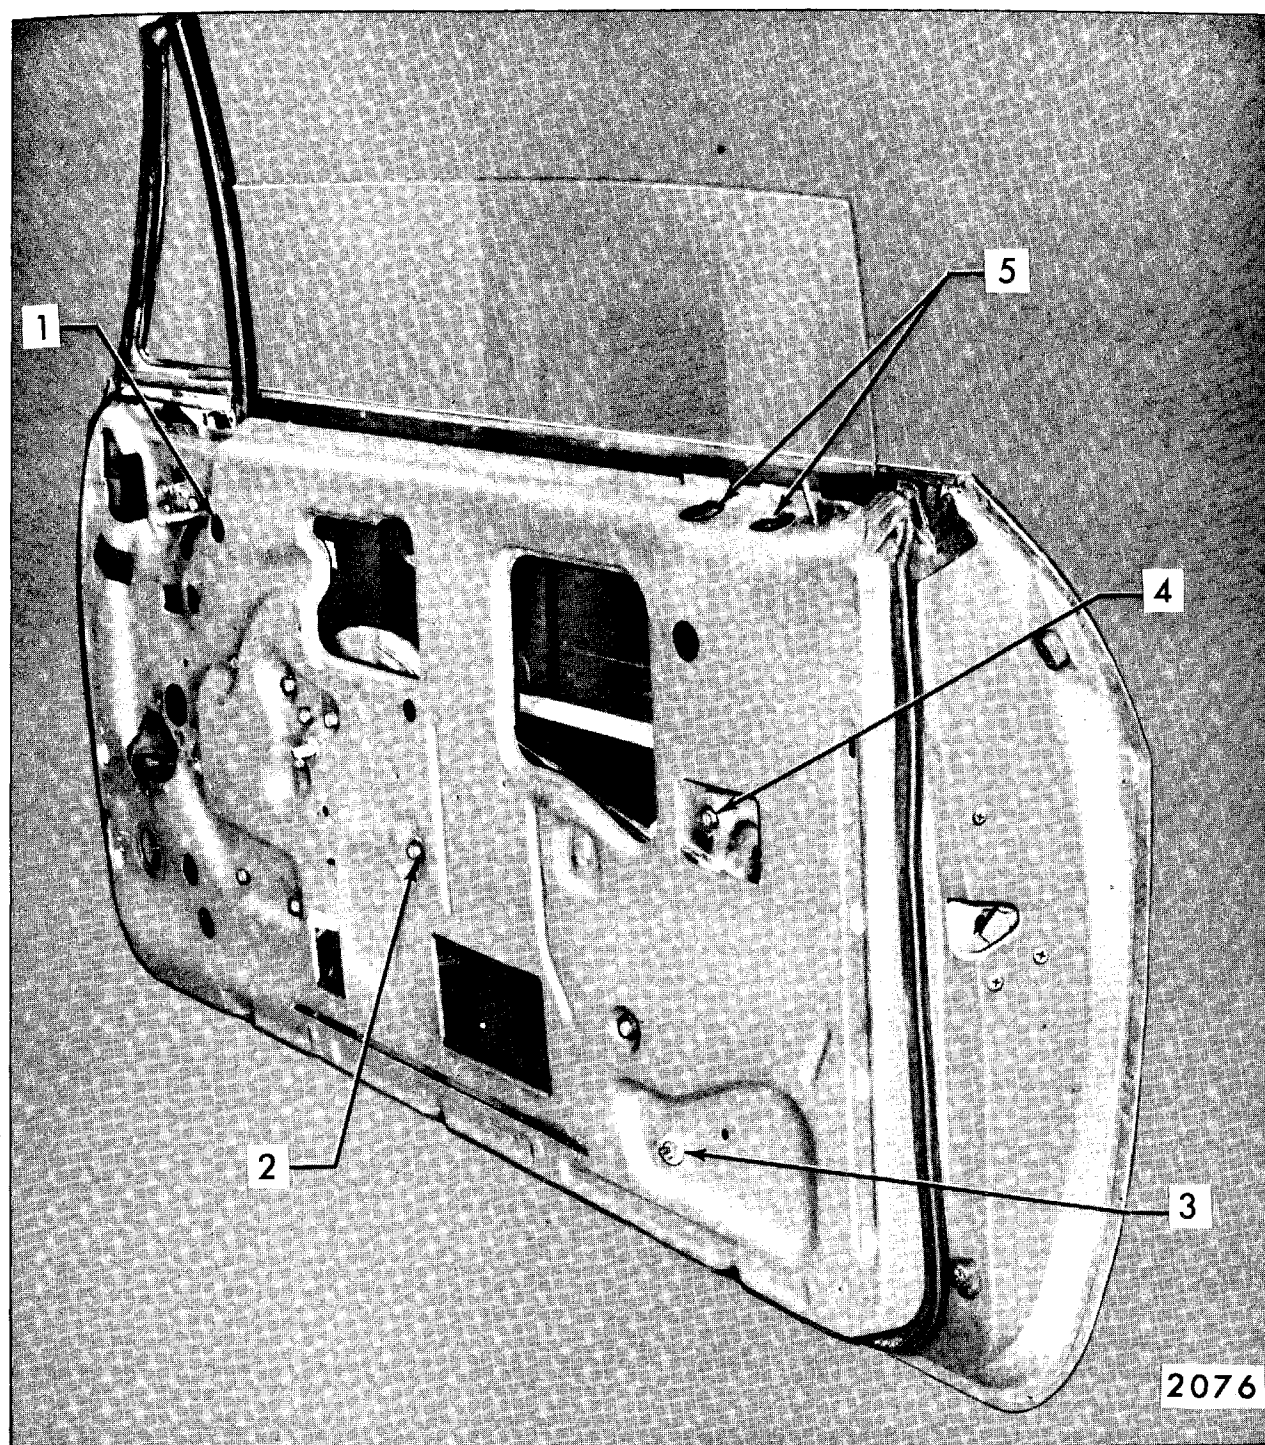

Fig. 7-77—Front Door Window Removal - "B & C" Hardtop Styles
2. Operate glass to "full-up" position and remove front up-travel stop from lower sash channel (Fig. 7-77).
3. Operate window to half-down position and remove rear up-stop (Fig. 7-77).
4. With window in full-up position, remove glass run channel upper attaching bolts and lower adjusting stud nut (Fig. 7-77). Disengage run channel from window assembly and remove through access hole.
5. Remove inner panel cam bolts (Fig. 7-77). Disengage cam from regulator lift arm roller and remove cam.
1. To correct a rotated window condition (glass cocked in opening), loosen inner panel cam attaching bolts (Fig. 7-77) and adjust front end of cam up or down as required.
2. To adjust upper rear edge of glass in-or-out in relation to side roof rail weatherstrip, loosen glass run channel lower adjusting stud nut and upper attaching bolts (Fig. 7-77).
3. To adjust window up-travel, operate window to full-up position and loosen window front and rear upper stops (Fig. 7-77). Operate window to desired position and tighten stop bolts while